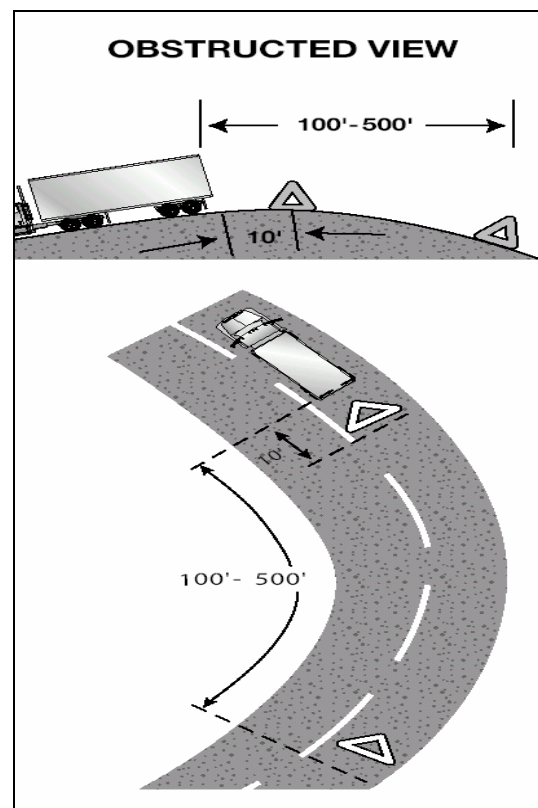

Figure 2.10
- Back beyond any hill, curve, or other obstruction that prevents other drivers from seeing the vehicle within 500 feet. If line of sight view is obstructed due to hill or curve, move the rear-most triangle to a point back down the road so warning is provided. See Figure 2.10.